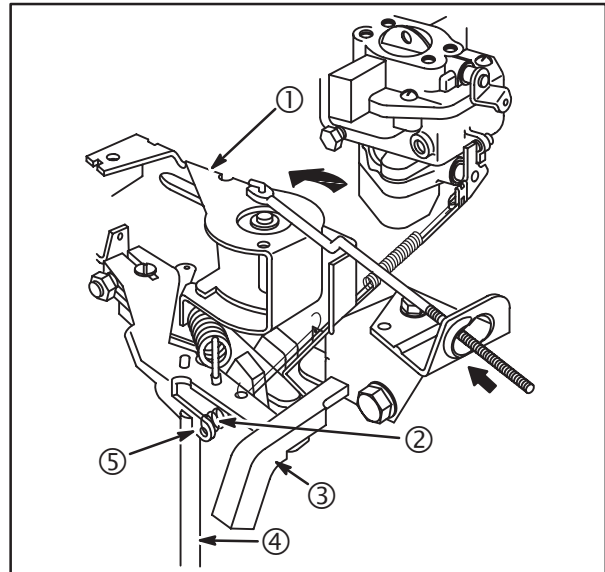

Fig. 39
- Rotate governor control swivel (1) counterclockwise to end of travel, **Fig. 39**.
- Install Adjustment Gauge #19385 (3), with notch over end of governor lever and flat end of tool against governor control bracket as shown in **Fig. 39**.
- Hold gauge in position and bend tab (5) with Tang Bender #19352 (4) so that all slack is removed from secondary governor spring (2) between its two anchor points, **Fig. 39**. **DO NOT STRETCH SPRING.**